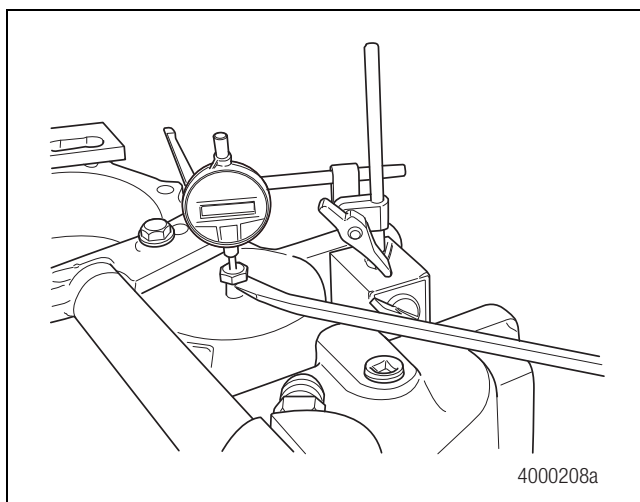

Figure 6.26
6. Set up the dial indicator to check the idler shaft bearing end play. Center the dial indicator on the bolt head. Zero the indicator. Figure 6.26.